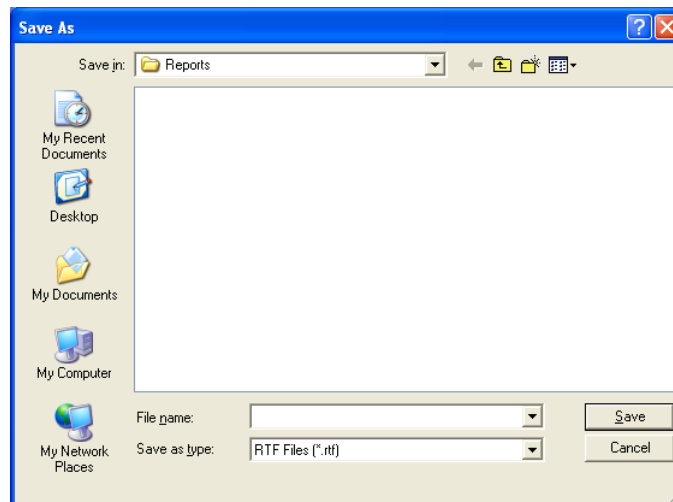

Figure 5-28
- To save all these parameters to a file, click the **Save to File** button or press *Alt+S*. The Save As screen appears as shown in Figure 5-28. The default folder is Reports in CAPTUS® 3000 folder. Data is saved in rich text format (.rtf), which may be viewed in a word processor (such as WordPad).